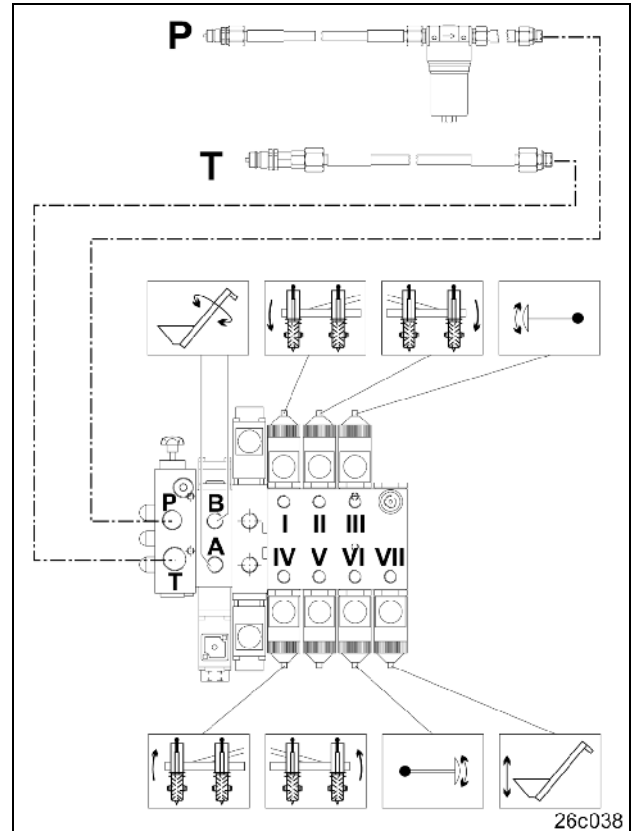

Fig. 57
- one single acting control unit for connection of the pressure hose (Fig. 57/P).
- one pressure less return flow for connection of the return flow hose (Fig. 57/T).